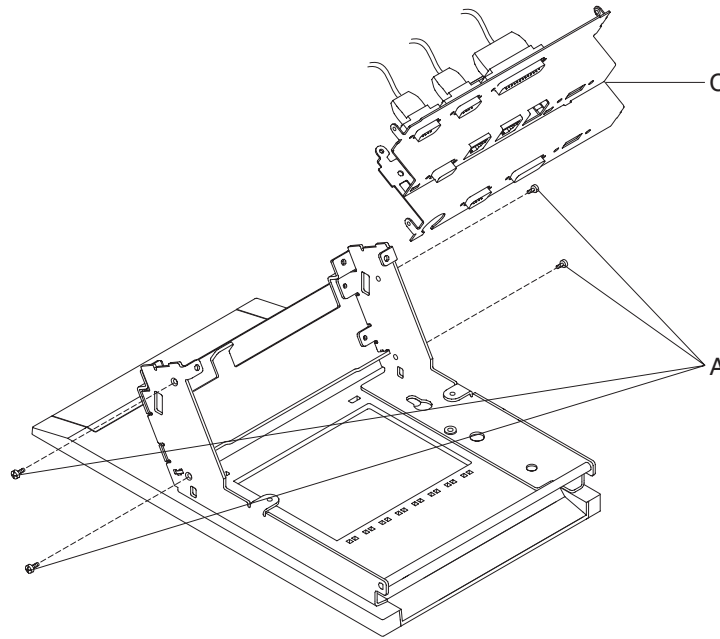

Figure 84. Removing the tailgate assembly
10. Detach the tailgate assembly by removing four screws **A** as shown in Figure 84.